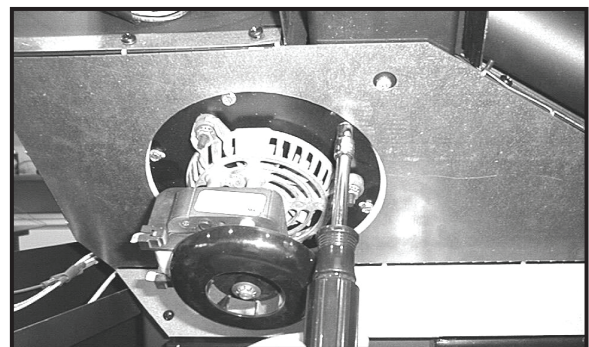

Figure 26.4
- There is a removable plate on the exhaust blower. Using a 1/4" socket or short standard screwdriver loosen the 6 screws in the keyhole shaped holes and rotate the plate (**Figure 26.4**).